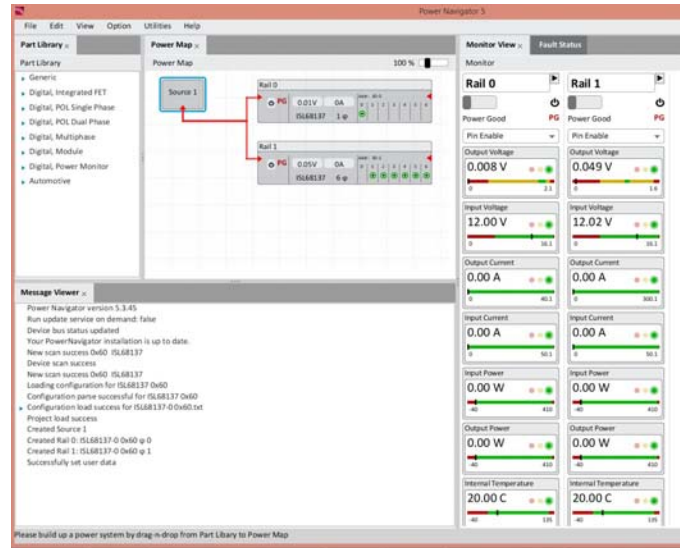

FIGURE 6. POWER NAVIGATOR DEFAULT VIEW
8. Wait until PowerNavigator™ Power Map is populated and the telemetry meters are displayed (Figure 6).